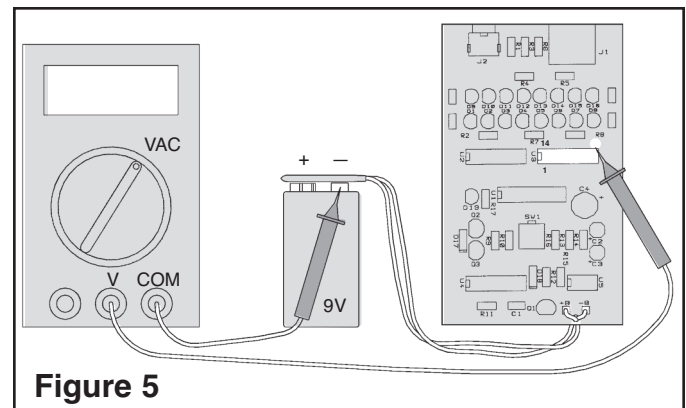

Figure 5
- ❑ 2. Set the voltmeter to read 20VAC and connect the COM lead to the negative (–) side of the battery and the V lead to pad of pin 8 of IC U3 as shown in Figure 5. The meter should indicate 0V. Push switch SW1. The meter should indicate 3-5VAC.